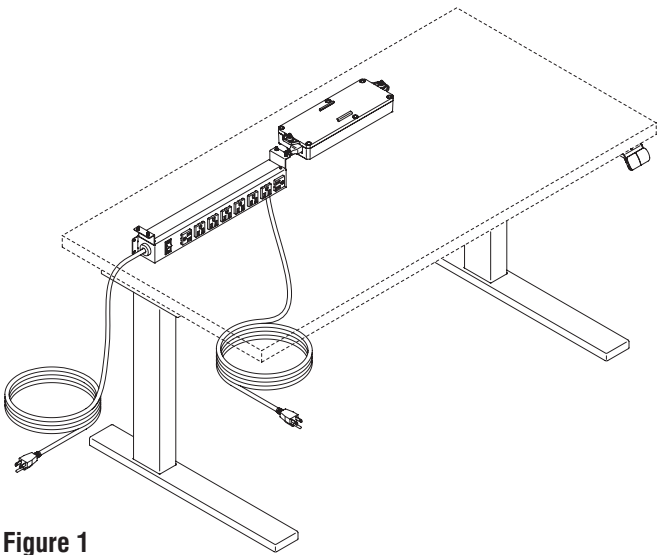

Figure 1
1. Carefully turn the table to the upright position if it is not already upright. Move the table to the final location of use (Figure 1).